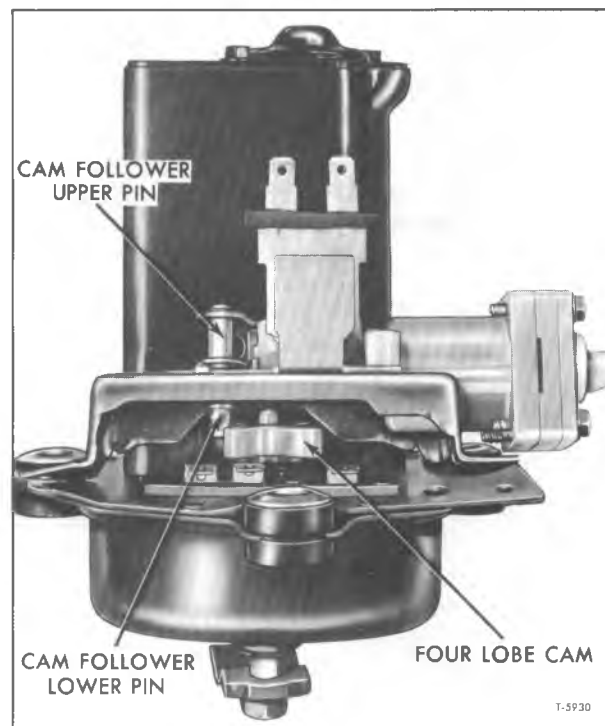

Figure 22—Separating Pump From Motor
2. Remove washer pump drive cam (fig. 22). Cam is pressed on shaft but may be removed by carefully wedging two screwdrivers between cam and plate.